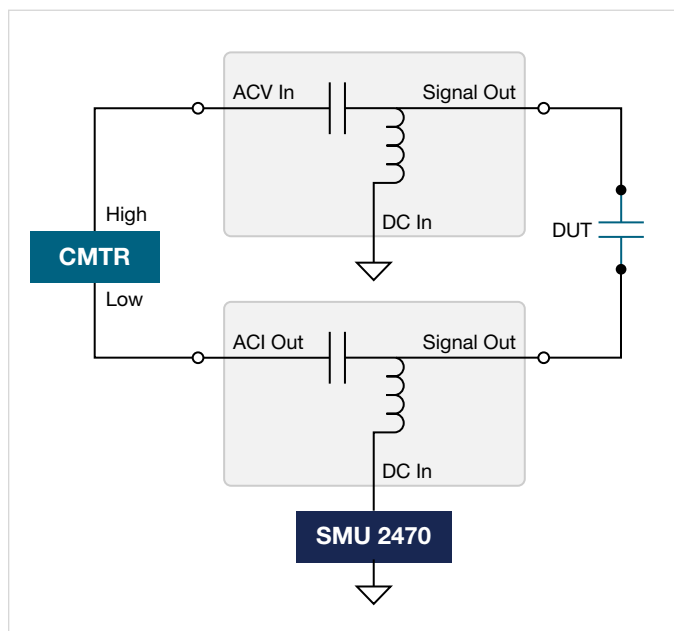

Figure 8: Diagram of two-terminal capacitance measurement with the bias tees.
**Figure 8** shows a diagram of testing a two-terminal capacitance with the use of two bias tees. The top bias tee take input from the high side of CMTR (ACV drive) and DC ground and delivers this mixed signal to the high side of the capacitor. The low bias tee provides HV DC bias to the DUT and provides a low AC impedance path to the low side of the CMTR, which is usually the sense-side of the CMTR, and measures ACI.